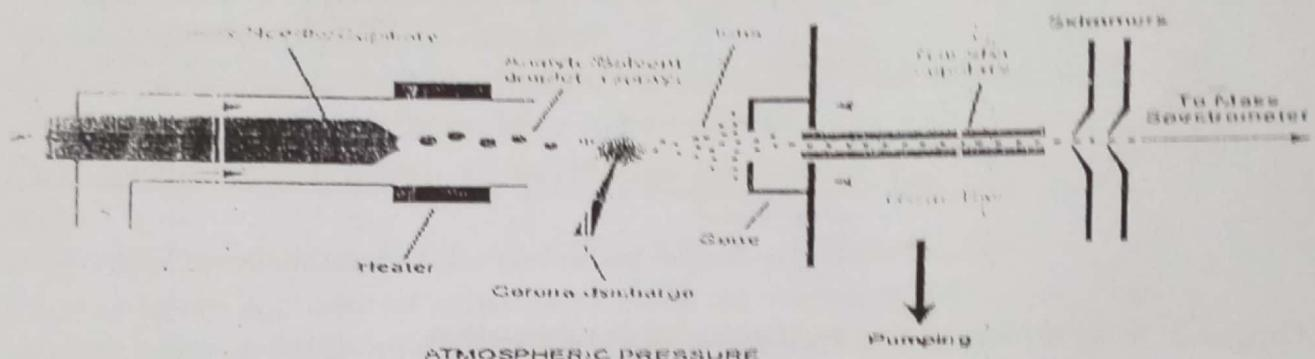

Figure 3 A schematic of the components of an APCI source
- Atmospheric pressure chemical ionization (APCI) is an analogous ionization method to chemical ionization (CI).
- The general source set-up (see Fig. 3) shares a strong resemblance to ESI. Where APCI differs to ESI, is in the way ionization occurs. In ESI, ionization is brought about through the potential difference between the spray needle and the cone along with rapid but gentle desolvation.